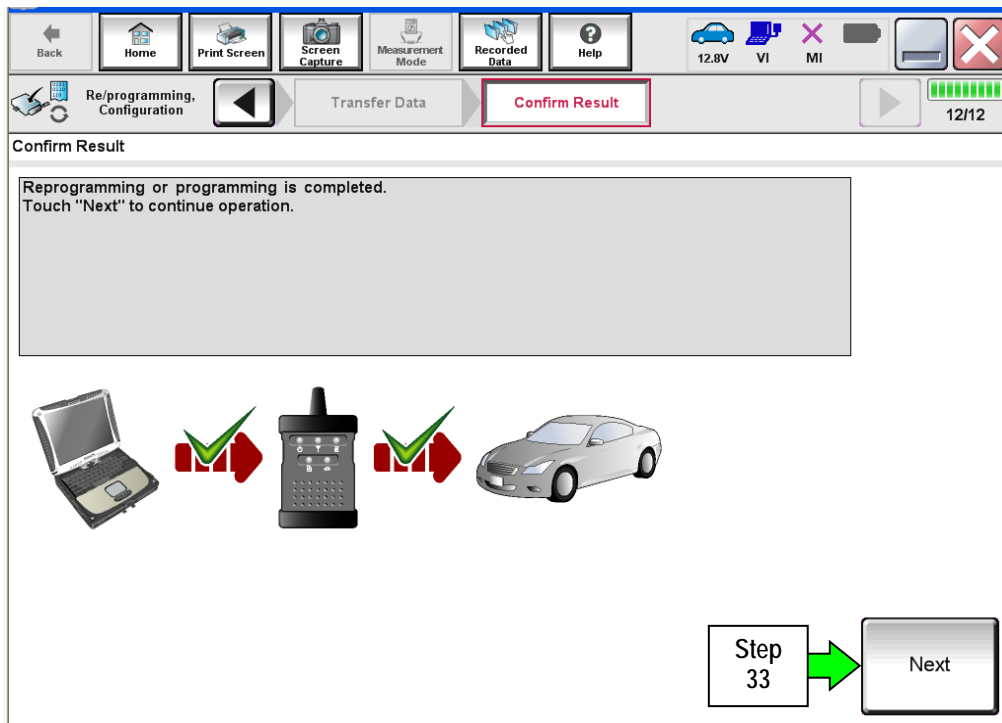

Figure 17a
31. When the screen in Figure 17a displays, programming is complete.
NOTE: If the screen in Figure 17a does not display (indicating that programming did not complete), refer to the information on the next page.